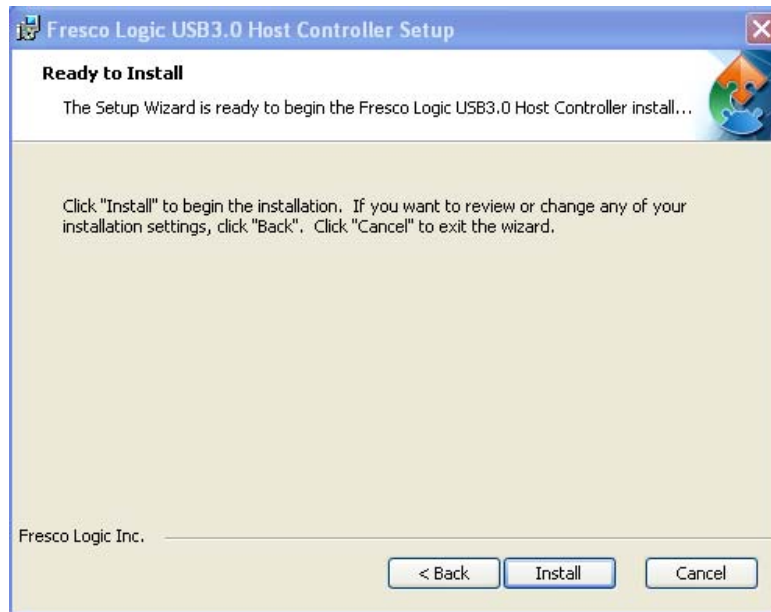

Figure 7-32: USB 3.0 Driver Choose Install Location
Step 8: The program is ready to install (Figure 7-32).